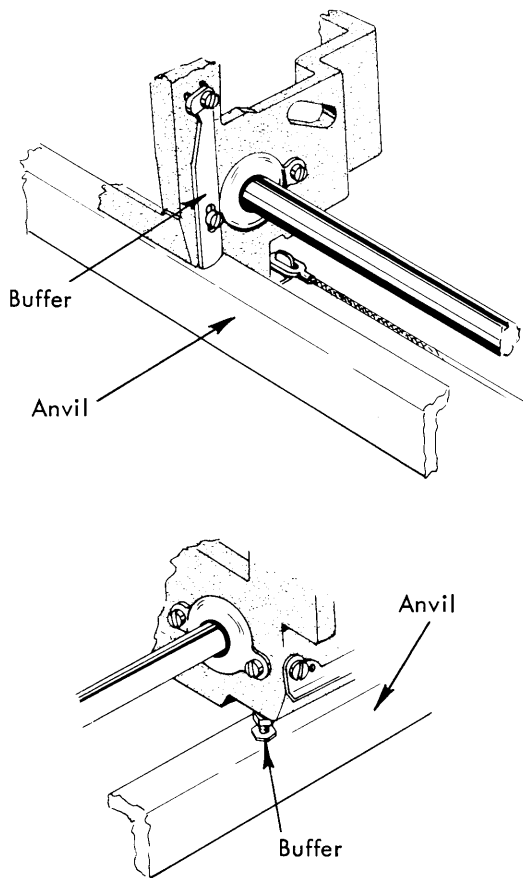

FIGURE 78. Carrier Buffers (723 & 725)
NOTE: The restoring cam follower eccentric should be adjusted all the way up while the anvil is being set. On 723's and 725's the carrier buffers must also be moved up out of the way of the anvil (Fig. 78).
8. Carrier Buffers (723 and 725 only) - A buffer plate attached to the right side of the carrier and an adjusting screw under the left side strike the top of the anvil to prevent the print shaft from flexing downward. Each should have .002" to .004" clearance with the top of the anvil (Fig. 78).